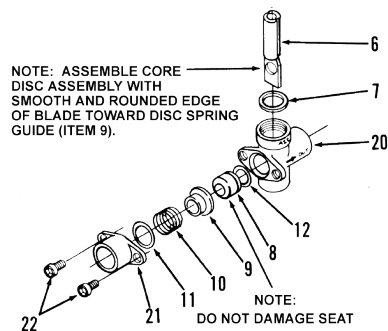

Figure 2-20 Solenoid Valve Diagram
Assemble valve core and blade (6), with the smooth side of the hole towards the disc spring guide (9), see Figure 2-20 Solenoid Valve Diagram, page 50.
Remove the solenoid body from fryer to replace seals, see Figure 2-20 Solenoid Valve Diagram, page 50 to help identify all parts.